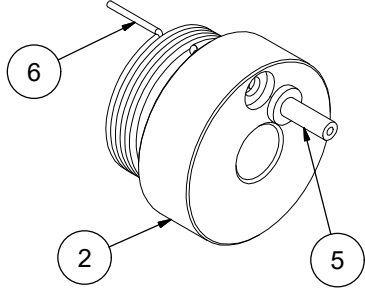
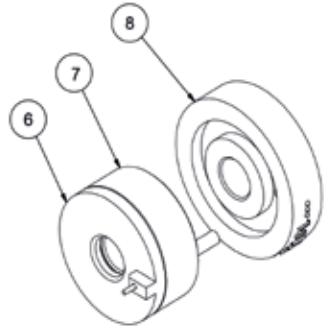
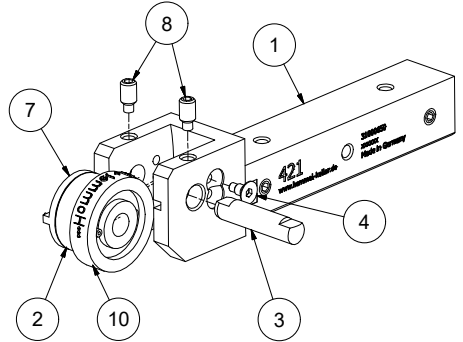
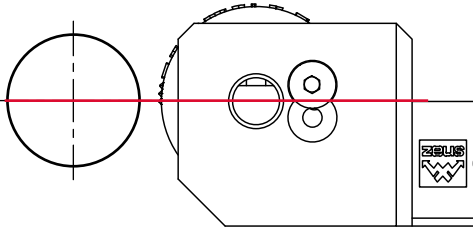

Figure 5: Spring housing assembly
Figure 6: Assembly of marking roll
Figure 7: Assembly of marking roll unit
Figure 8: Marking roll positioning
With use of the RIGHT spring, turn the marking roll (Fig. 7, pos. 10) until the driving pin (Fig. 5, pos. 5) is above the counterbore of the holder (cf. Fig. 7). With use of the LEFT spring, the marking roll must be turned CCW.
If the correct position has been reached, hold the marking roll in this position and screw in the stop screw (Fig. 7, pos. 4) in the threaded hole of the holder.
The first starting point of the marking roll (Fig. 7, pos. 10) must be on the centre height (top edge shank edge) of the base holder (Fig. 7, pos. 1) (cf. Fig. 8).
First turn the marking roll (Fig. 7, pos. 10) by hand CCW to the mechanical stop. When you let go of the marking roll, it must return to the starting position of the marking. Now turn the marking roll slightly. During this movement the marking roll must again spring back to the starting position on its own.
For removal of the marking roll (Fig. 7, pos. 10), follow the instructions starting with no. 7 in reverse sequence. For a tool version with a different spring, adapt the procedure accordingly. Pay special attention to the rotary direction of the roll!
Insert the selected spring (Fig. 5, pos. 6) with the short side first into the spring housing (Fig. 5, pos. 2) and position the driving pin (Fig. 5, pos. 5) on the arm of the spring (cf. Fig. 5).
Slide the marking roll (Fig. 6, pos. 8) onto the mounted assembly so that the driving pin (Fig. 5, pos. 5) is guided in the groove of the marking roll (Fig. 6, pos. 8). Then, fit the fixing disc (Fig. 6, pos. 6) with the smooth side first on the protruding spring arm (cf. Fig. 6).
Slide the complete marking roll unit (incl. assembled spring housing) into the groove of the base holder (Fig. 7, pos. 1). During this process, insert the fixing disc (Fig. 7, pos. 7) into the corresponding recess. Then, centre the complete unit with the axle pin (Fig. 7, pos. 3) and secure with the threaded pins (Fig. 7, pos. 8). In the process, the positioning of the planar surface of the axle pin must be observed.